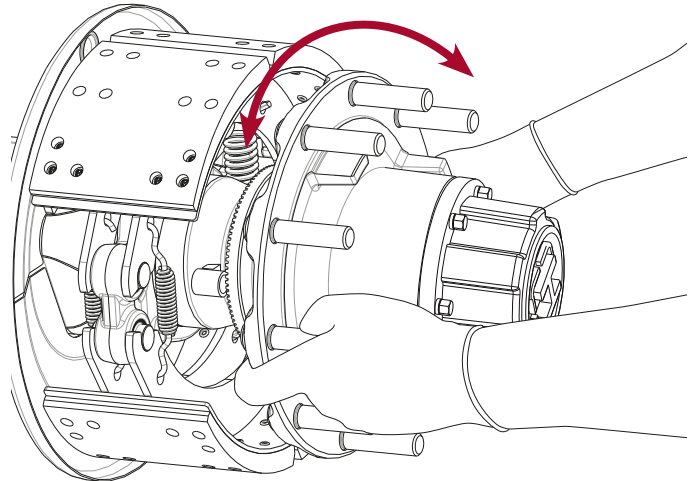

Figure 31: Check hub for smooth rotation
3. While maintaining physical contact, slowly rotate hub in both directions at least five revolutions. Refer Figure 31.